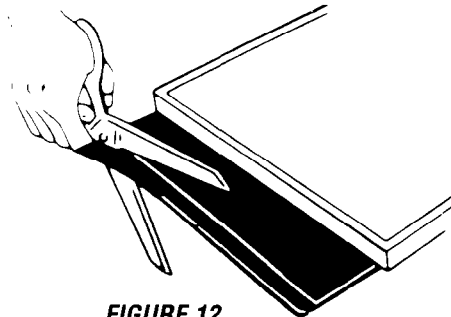

FIGURE 12
5. Use a pair of scissors and cut toe plate along this line. (See Figure 12.)